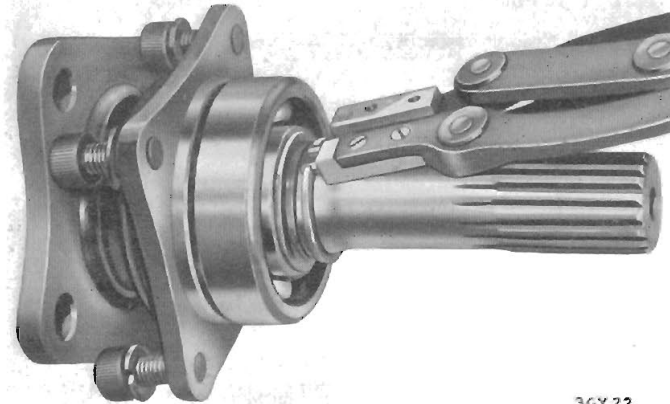

**Fig. 17. Outer axle shaft assembly**
**Refitting (Fig. 17)**
2. Carefully jack up the vertical link plate and secure the extended damper to its lower attachment (5).
3. Re-attach the radius arm to the vertical link bracket (1).
4. Secure the outer axle shaft to the flange of the inner axle shaft (3) and remove the jack.
6. Re-connect the handbrake cable to the handbrake lever (2).